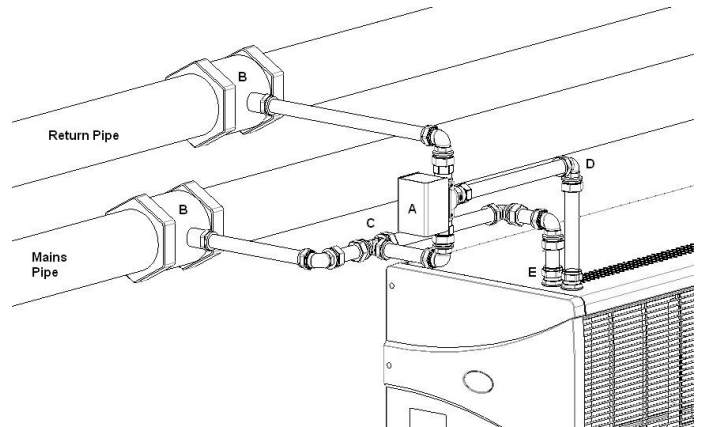

Figure 1.
3. Make all the plumbing connections as shown in Fig. 1